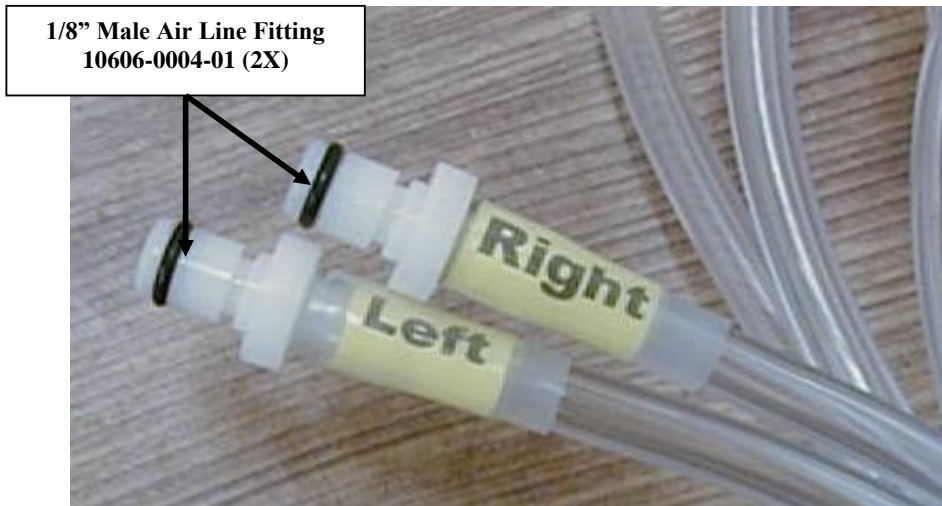

Figure 21
1. Place (2) 1" long clear shrink tubing (10621-0006-06) onto both of the main hoses.
2. Take the (2) Male Air Line Fittings (10606-0004-01) and insert the fitting into each of the tubings. You may need to use a pair of needle nose pliers to open up the tubing a bit to be able to place it all the way over the fitting.
4. Orient the direction of the writing as shown in Figure 21 and heat shrink in place.